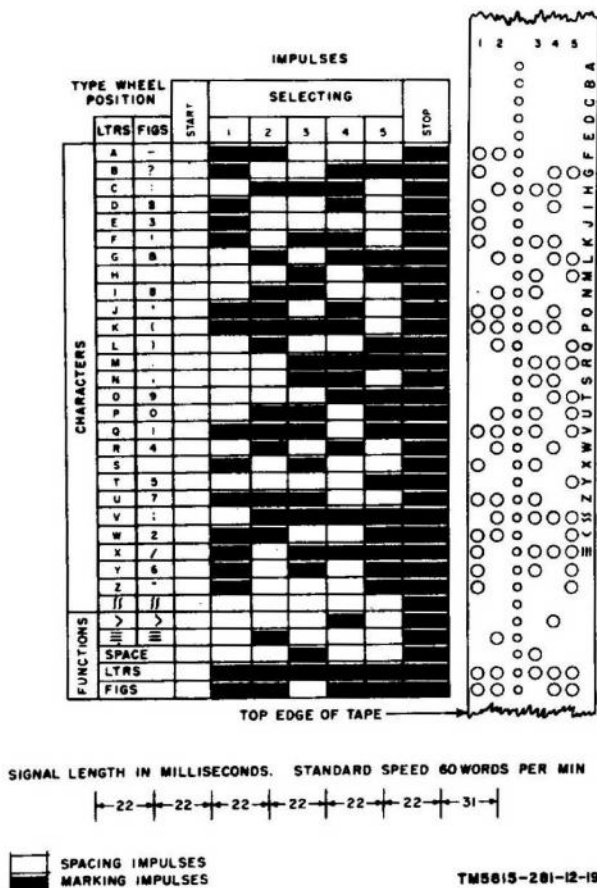

Figure 19. Stop-start, five-unit code chart.
e. Refer to the teletypewriter code chart in figure 19 and determine the sequence of marking and spacing impulses for each channel designating letter.